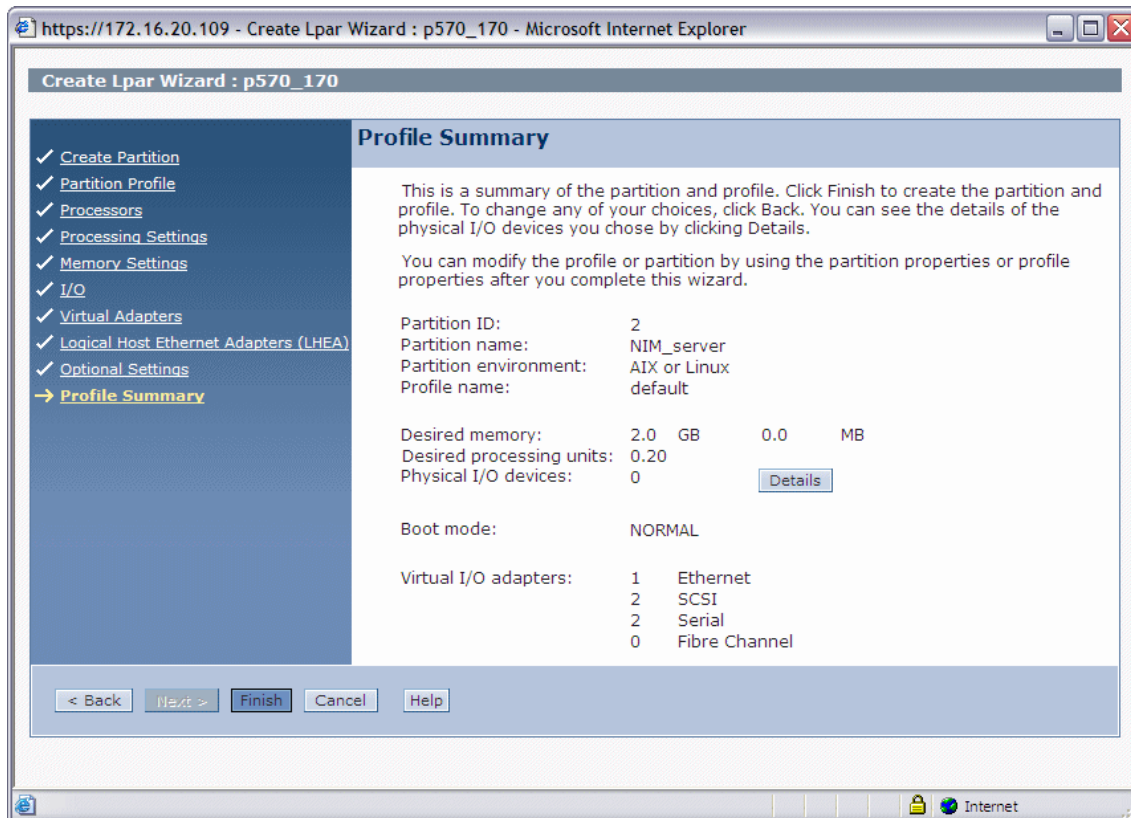

Figure 13-11 The Profile Summary menu
13. The Profile Summary menu (Figure 13-11) shows details about the partition. You can check details about the I/O devices by clicking **Details** or clicking **Back** to go back and modify any of the previous settings. Click **Finish** to complete the creation of the client partition.